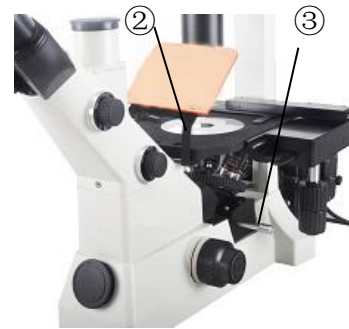

Fig.16
2.2.10 Attaching the protection barrier, stage center plate and Fluorescence mirror switching lever (Fig.16)